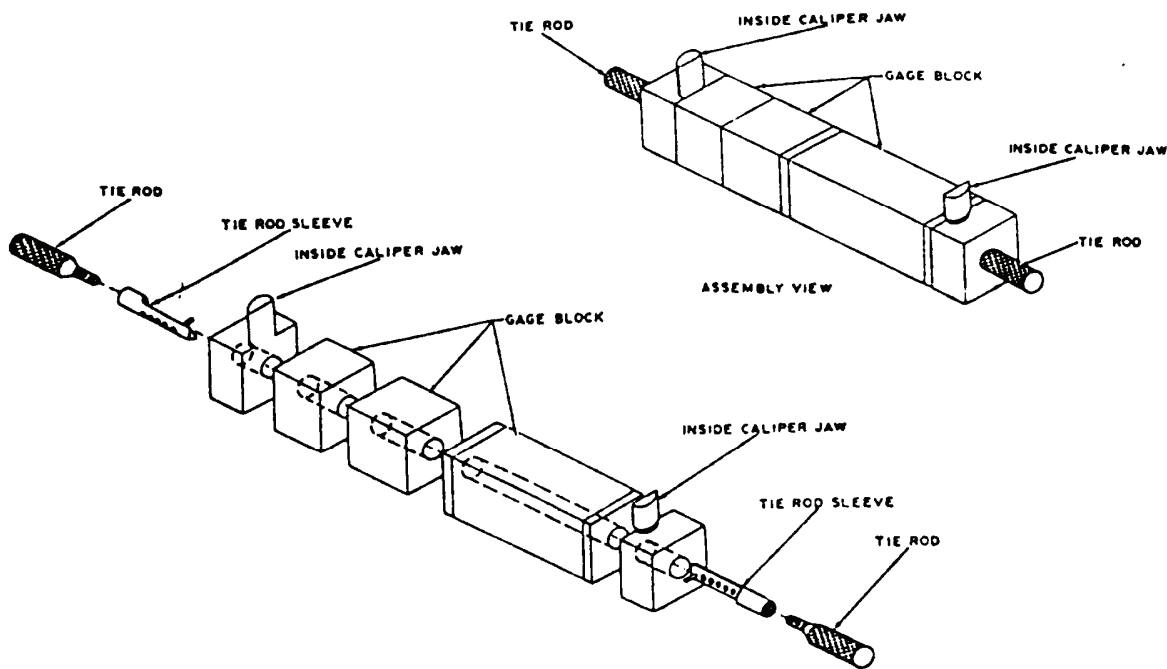

Figure 3. Gage blocks - equipment setup.
(1) Select appropriate gage blocks from gage blocks set to verify range of TI length standards.
(2) Assemble gage blocks. Be certain that blocks are firmly wrung together prior to applying tie rods. Each stack of blocks must have an inside caliper jaw at each end, which serves as an end stop. See figure 3 below.
- (3) Set up length standard between end stops.
- (4) After obtaining a satisfactory fix on end stops, total length of gage block stack should not exceed the tolerance listed in table 6 below.
- (5) Repeat (1) through (4) above for each length standard supplied with TI.
- (6) Select longest adjustable mandrel supplied with TI and insert into TI frame socket. Tighten knurled screw thumb tight.
- (7) Select shortest length of checking standard supplied with TI and place it between surface of anvil and spindle face.
- (8) Rotate thimble until surface of spindle and anvil face make gentle contact. TI will indicate within limits specified in table 6 below.